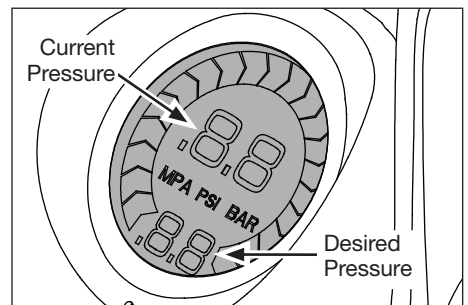

Figure 6 - Digital Pressure Gauge
5. Press power button. (See Figure 6).
5. Press power button. (See Figure 6). Unit will turn off automatically when set pressure is reached.